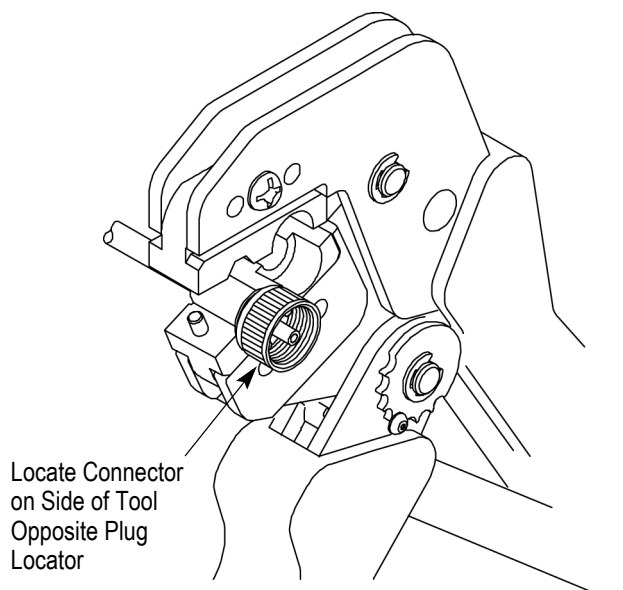

Figure 5
4. Place the assembly in the tool as shown in Figure 5.